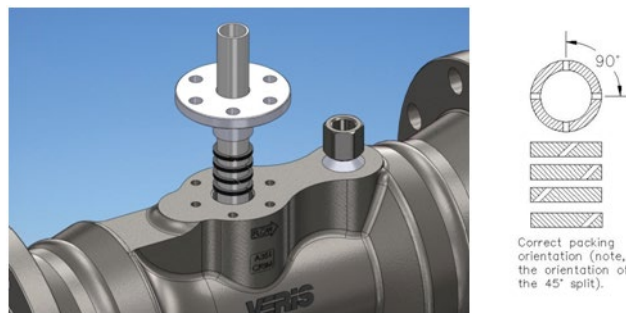

Figure 4. Packing Ring Installation
Insert a tube fixture (not supplied) or insert the Accelabar® sensor into the bottom bore of the Accelabar® body. Use a 0.75" O.D tube for -05 sensors and a 1.00" O.D tube for -10 sensors. (See Figure 4)
- Repeat steps for the other three packing rings, being sure that the splits in the packing rings are 90° apart as shown in Figure 4.